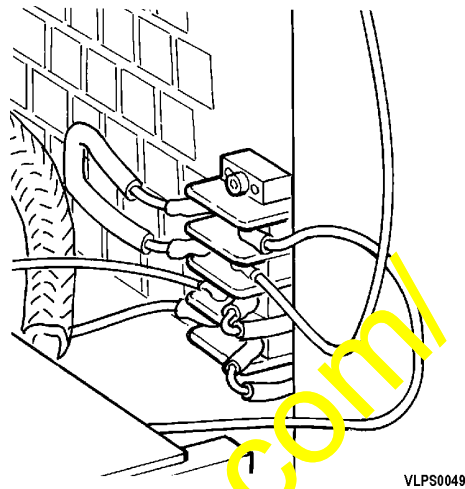

Figure 3a
7. Locate the terminal block and relocate the component leads to the positions shown. (see Figure 3a and 3b). Typically, the diode lead in position 3 will need to be moved to position 2.
8. Fasten terminals to terminal block and switch. (See figure 3a and 3b) with wiring harness P/N 421-06-A1910